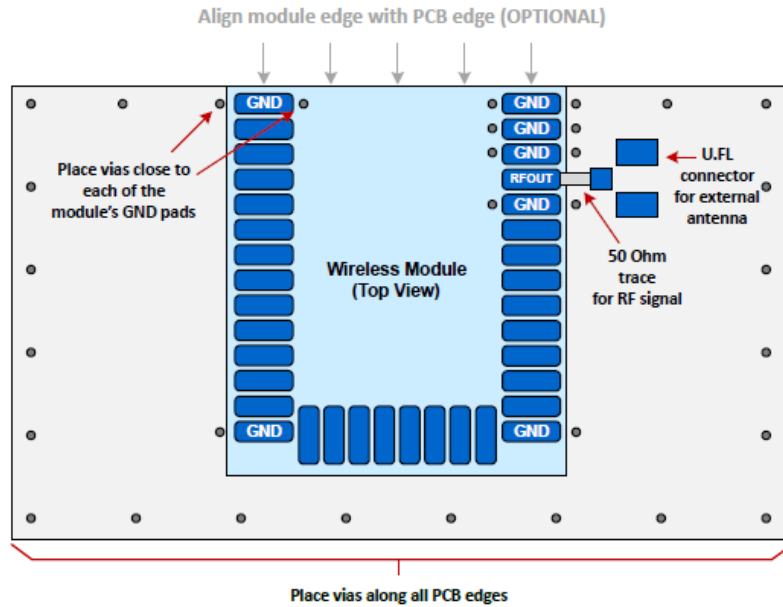

Figure 12: Recommended Layout for Lyra 24P Using External Antenna
- For external antenna use cases, use a 50 Ω grounded coplanar transmission line to trace the signal from the RF pin to an external MHF4 RF connector if applicable (see Figure 12).